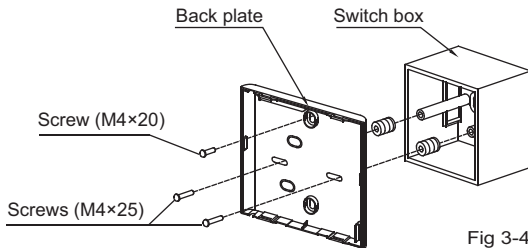

Fig 3-4
- For flush-mounting, fasten the back plate on the switch box with 2 screws (M4×25) and fasten it on the wall with 1 screw (M4×20). (Fig.3-4)